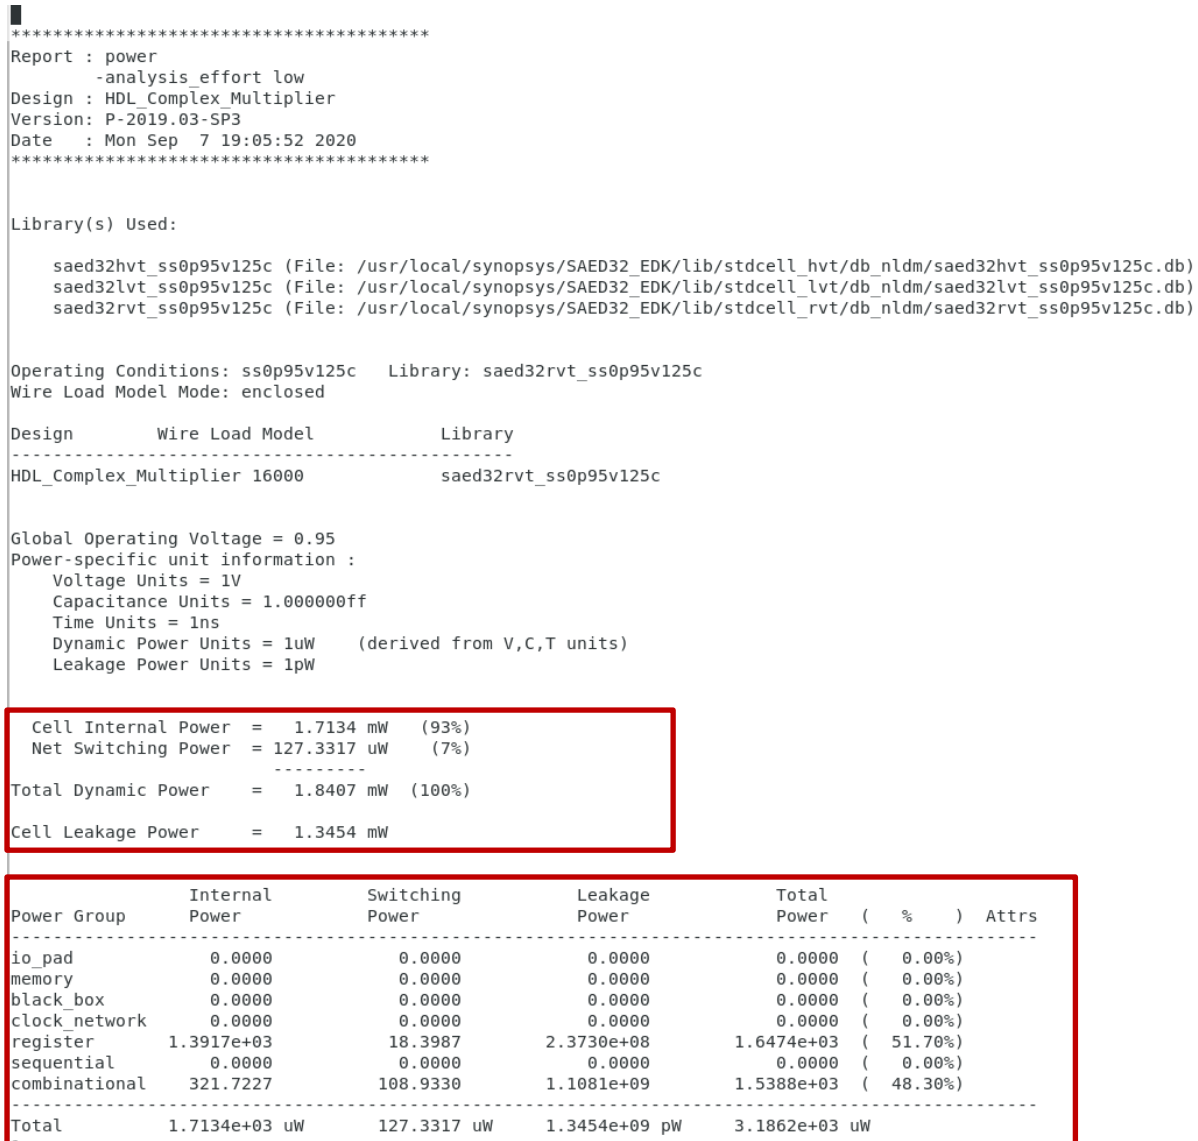

Figure 26: Example Power Report
- 4-9.** Figure 26 shows an example power report (.mapped.power.rpt). You can observe the total dynamic power and cell leakage power from the report. The breakdown of dynamic power into cell internal power and switching power and their percentages are shown. The contribution of the sequential and combinational logic to the total power is shown in the table. The unit of dynamic and leakage power is in micro-watts (mW) and picowatts (pW), respectively.